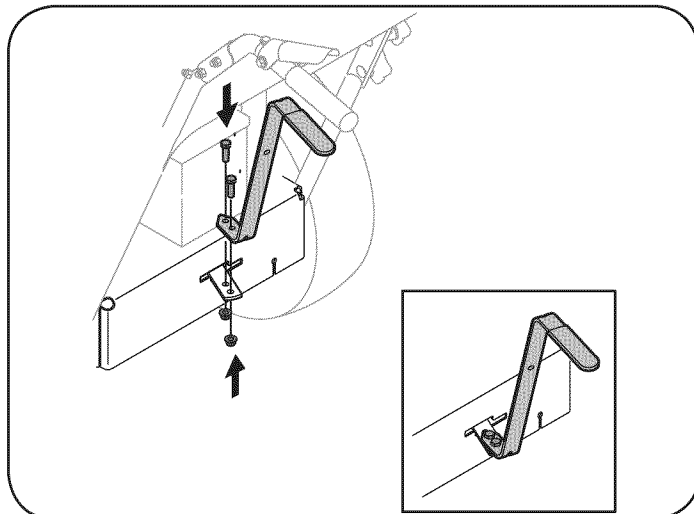

Figure 6
3. Position the upper shift lever into a vertical position aligning the holes in the lever with the holes in the shift plate. See Figure 6.
4. Secure the lever to the plate using the two screws and two nuts removed earlier. See Figure 6.